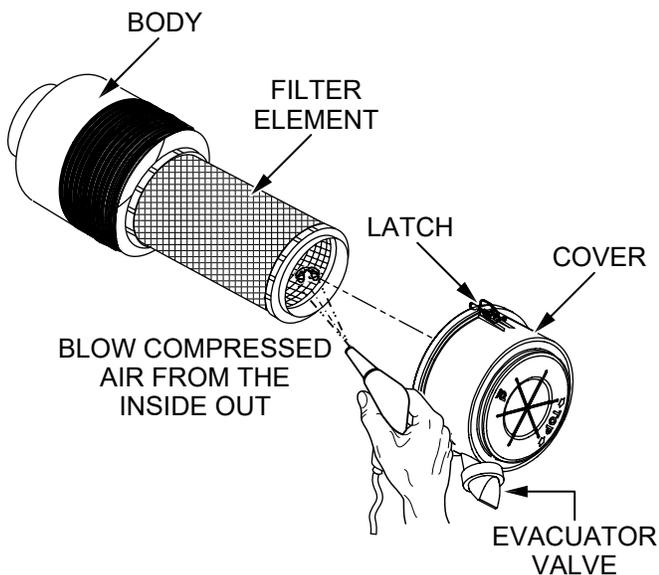

Figure 45. Engine Air Cleaner
The **air cleaner** (Figure 45) of this Kubota diesel engine is equipped with a replaceable, high-density, paper **filter element**. Check the air cleaner daily or before starting the engine. Open the **evacuator valve** once a week under ordinary conditions (or daily when used in dusty conditions) to get rid of large particles of dust and dirt. Replace the air cleaner every year or every six cleanings.
1. Release the latches (Figure 45) that secure the air cleaner cover to the air cleaner body.
2. Remove the air cleaner cover (Figure 45) and set it aside.
3. Remove the filter element (Figure 45).
4. To clean the filter element (paper air filter) as shown in Figure 45, blow compressed air, not to exceed 30 psi (205 kPa, 2.1 kgf/cm2), through the filter element from the inside out.
6. Use a cloth to clean the inside of the air cleaner body (Figure 45).